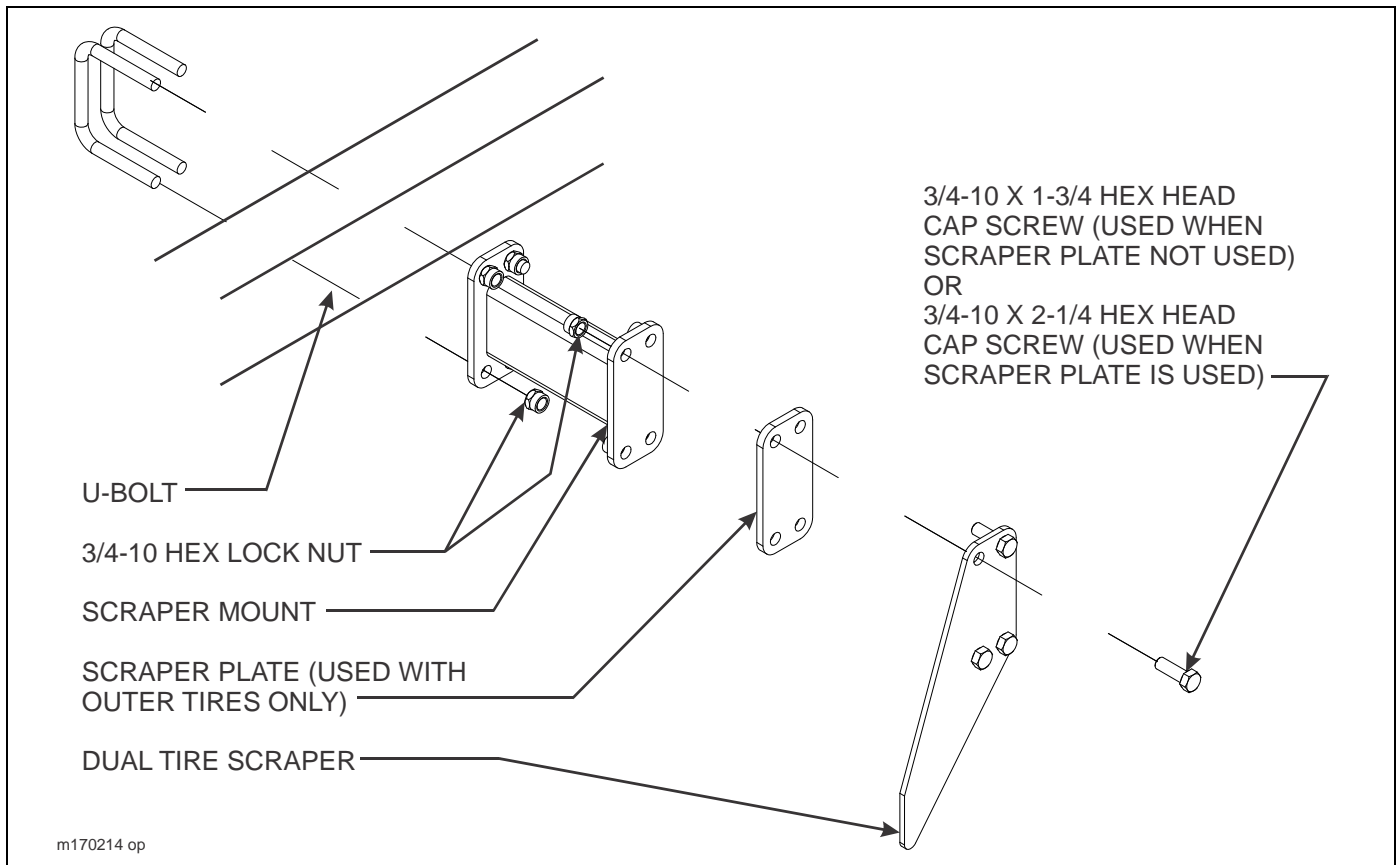

Figure 3-4: Dual Tire Scraper Installation
1. Attach scraper mount to center frame using u-bolts and 3/4-10 hex lock nuts (**See Figure 3-4.**)